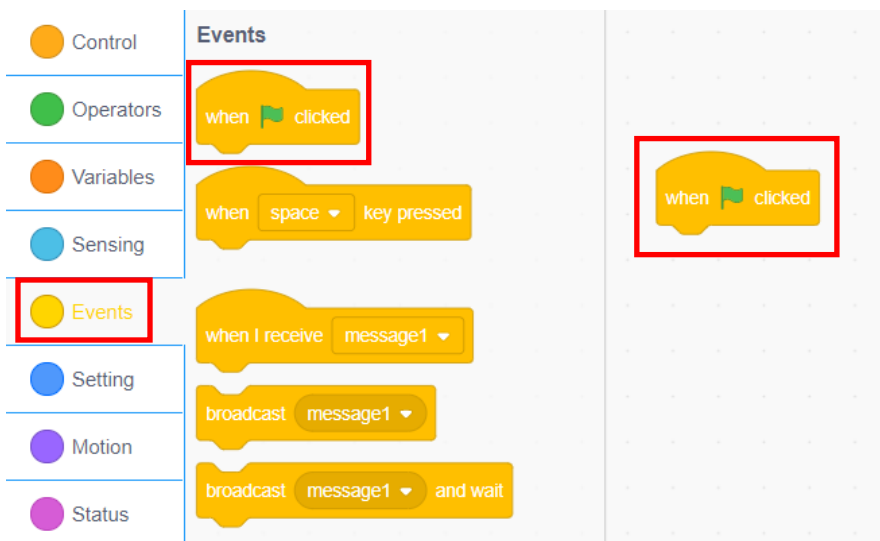

Figure 2.3 Starting block concatenation
Step 3: Trigger the program. In the Scratch interface, click the "**Events**" tab and drag the "when  is clicked" block to the code area, as shown in Figure 2.3.